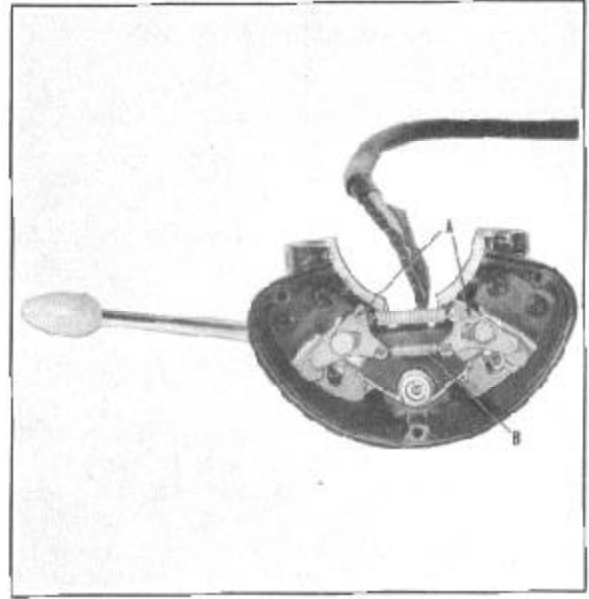

FIGURE 33
1. Remove switch case cover and check canceling pawls (A), Figure 33, to see that they slide freely. Apply a small amount of vaseline to slot in each pawl.
2. Move switch lever up and turn steering wheel 1/2 turn right. Canceling pin in steering wheel hub should strike and pass left pawl without moving switch. The pawl spring (B) should return the pawl to extended position when the pin clears.